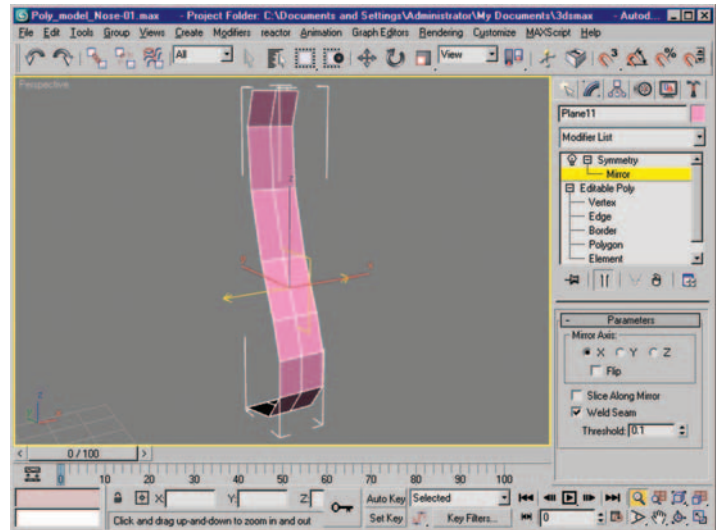

Figure 3.11 Our mesh after removing half and applying the Symmetry modifier.
6. Go to the modifier list, and add a TurboSmooth modifier. Before we move on, another good practice you should start to implement at this stage is the use of the Show End Result on/off toggle. In the next steps we are going to be moving edges and creating new detail; this toggle will give you accurate visual feedback of the final shape of your mesh as you work. While modeling you can turn off TurboSmooth and use the End Result toggle to display your mesh with the Symmetry modifier applied. Throughout this, and every project you do, you should toggle on TurboSmooth from time to time to see how your base mesh looks after being subdivided. Figure 3.11 shows the mesh with the Symmetry modifier applied. You can see the settings used under the Parameters rollout in the screen capture.